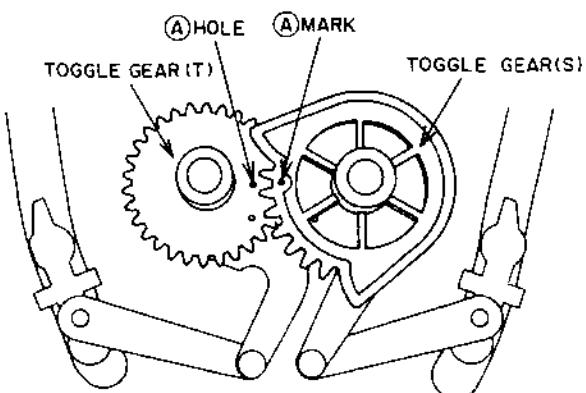

Fig. 4-10
- 1) Set the TOGGLE GEAR (T) and TOGGLE GEAR (S) to the unloaded position with your fingers. Align the **(A)** mark on the TOGGLE GEAR (S) with the **(A)** hole of the TOGGLE GEAR (T) as shown in Fig.4-10.